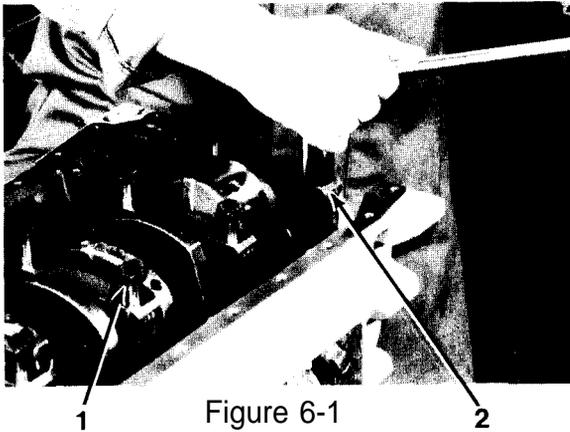

Figure 6-1
3. Apply sealant MIL-S-7916 to both sides of new gasket (4) and position it with print-a-seal surface toward engine block.
4. Install oil pan (3), 24 washers (2) and cap-screws (1, Figure 6-1). Torque 24 capscrews (1) to 18 lb-ft (24 N•m).
5. Refill oil pan (3) (refer to page 3-47).
4. Using a 23 mm socket, remove 10 cap screws (1, Figure 6-1).
5. Using a die, number five main bearing caps (2), if not already numbered.